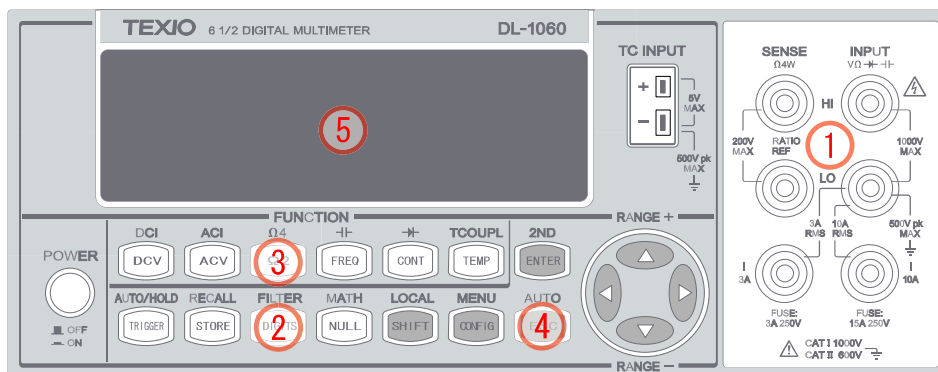
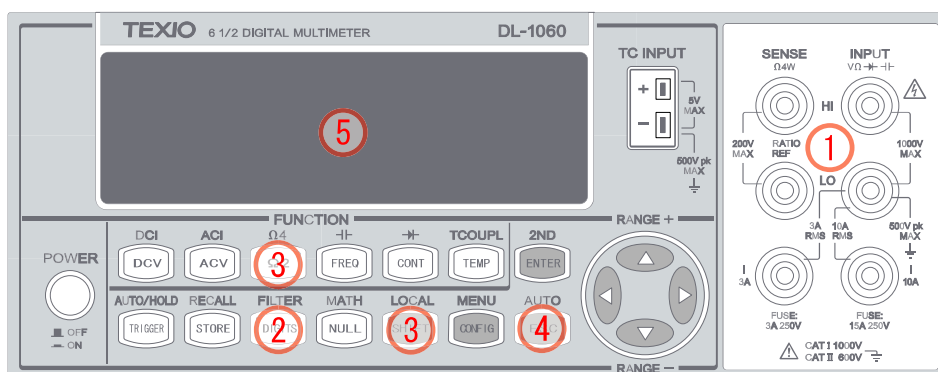

Figure 2-4
Figure 2-5
The ranges for resistance measurement are 100 Ω , 1K Ω , 10k Ω , 100k Ω , 1M Ω , 10M Ω , and 100M Ω , with a sensitivity of 100 $\mu\Omega$ (at 100 Ω range.) There are two modes for measuring the resistance: 2-wire mode as shown in **Figure 2-4** and 4-wire mode as shown in **Figure 2-5**. With 4-wire mode, the test current is measured from the test resistance through one pair of the test leads, and the test voltage across the resistance under test is measured from another set of the test leads. As a result, the 4-wire mode is more accurate for low resistance measurements. The trade off is the longer settling time for 4-wire mode.
1. Connect the test leads to the terminals as shown in **Figure 2-4** (2-wire) or **Figure 2-5** (4-wire).